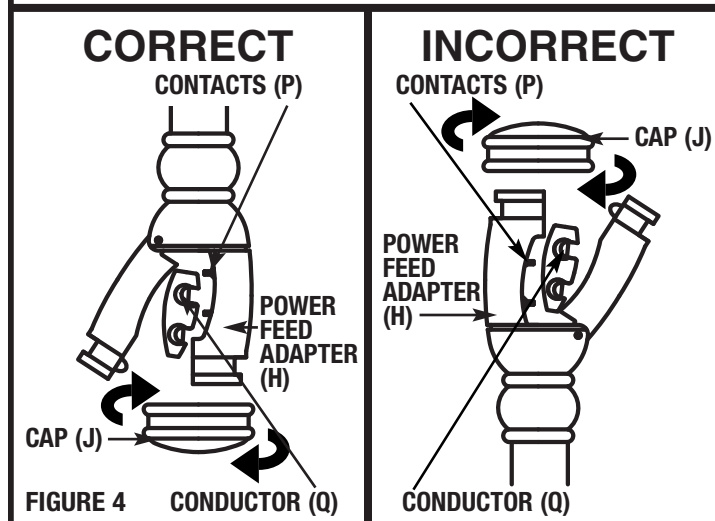

FIGURE 4
## INSTALL RAIL ONTO POWER FEED AND SUPPORT (Fig. 4)
1. Unthread caps (J) from power feed (H) and rail support adapters (X).
2. Install rail into rail adapters so conductors (Q) face contacts (P) of power feed. (see Fig 4) **\*Please make sure contacts (P) fit into rail conductors (Q) properly.** NOTE: If power feed or support adapters are not able to close around rail, turn rail around so adapter fits properly.
3. Close adapters over rail. Use a phillips head screw driver to tighten power feed ground screw into rail. Thread caps (J) back onto adapters.